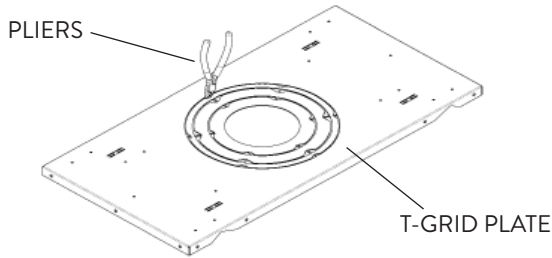

FIG. 11
- 1 The Optional T-Grid Ceiling Plate is for all the FDLA models. If necessary, use cutting Pliers to remove the sections and pattern for the specific FDLA Fixture (Fig. 11).